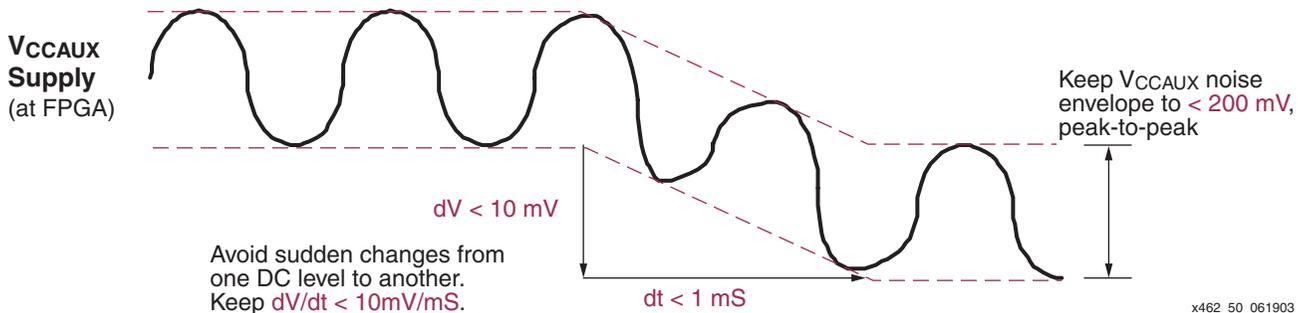

Figure 50: Recommended V_{CCAUX} Supply Considerations Avoid Voltage Droop
1. Limit changes in on the V_{CCAUX} power supply or ground potentials to less than 10 mV in any 1 ms interval, as shown in Figure 50. This recommendation allows the DCM to properly track out the change.
2. Limit the noise at the power supply to be within 200 mV peak-to-peak, as shown in Figure 50.